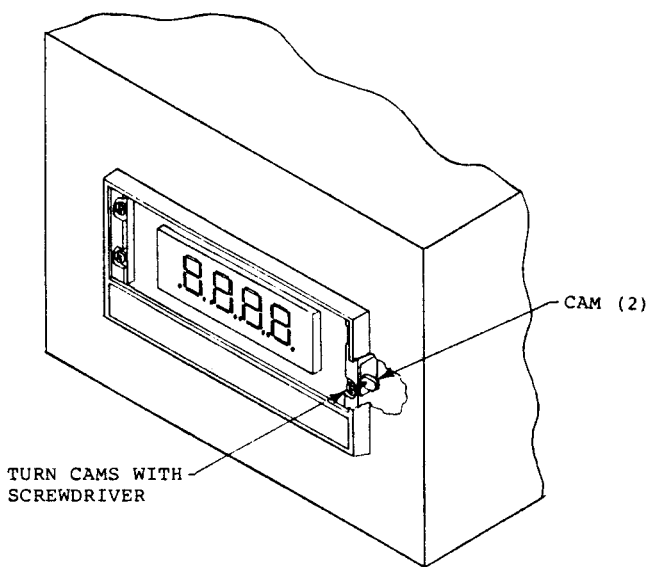

Figure 1-5. Installing Model 800
- c. Retract cams to their rearmost position using a phillips head screwdriver (figure 1-5).